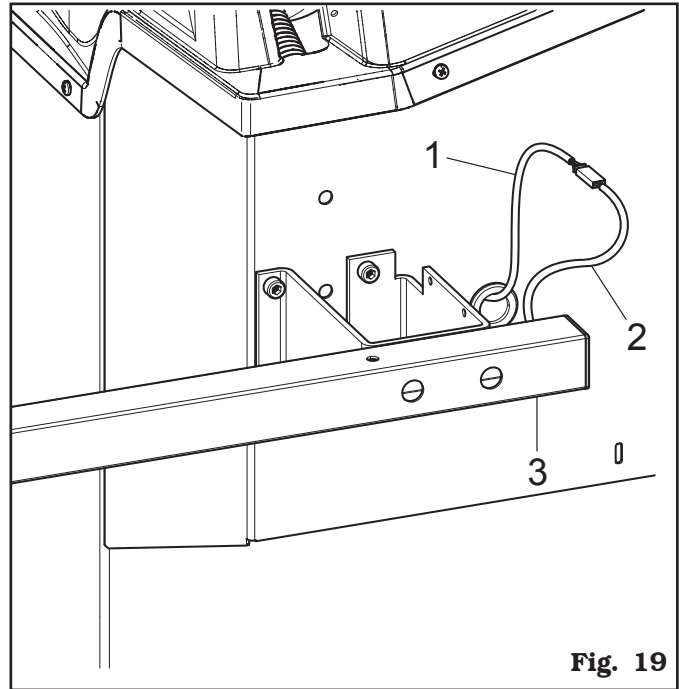

Fig. 19
3. Connect connector (**Fig. 19 ref. 1**) of the cable coming from inside the machine to connector (**Fig. 19 ref. 2**) of the cable coming from the gauge arm. Fit the section of the cable coming from the gauge arm to the connectors inside the arm (**Fig. 19 ref. 3**).